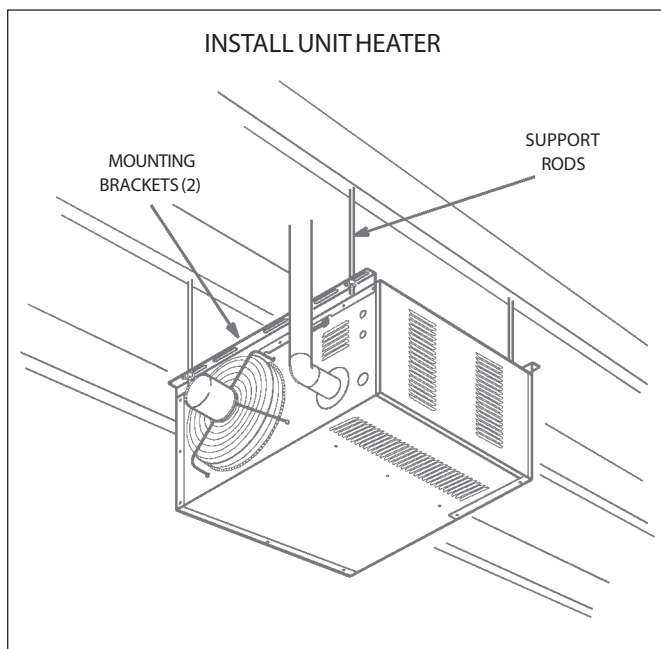

FIGURE 1
Unit is shipped ready for installation. Unit may be installed as shown in figure 1 or inverted 180° depending on desired location as governed by clearances, vent connection, air direction, gas supply, electrical supply and service accessibility.
5. To support unit, secure mounting bracket to ceiling joist or truss. Unit may also hang on rods as shown in figure 1.